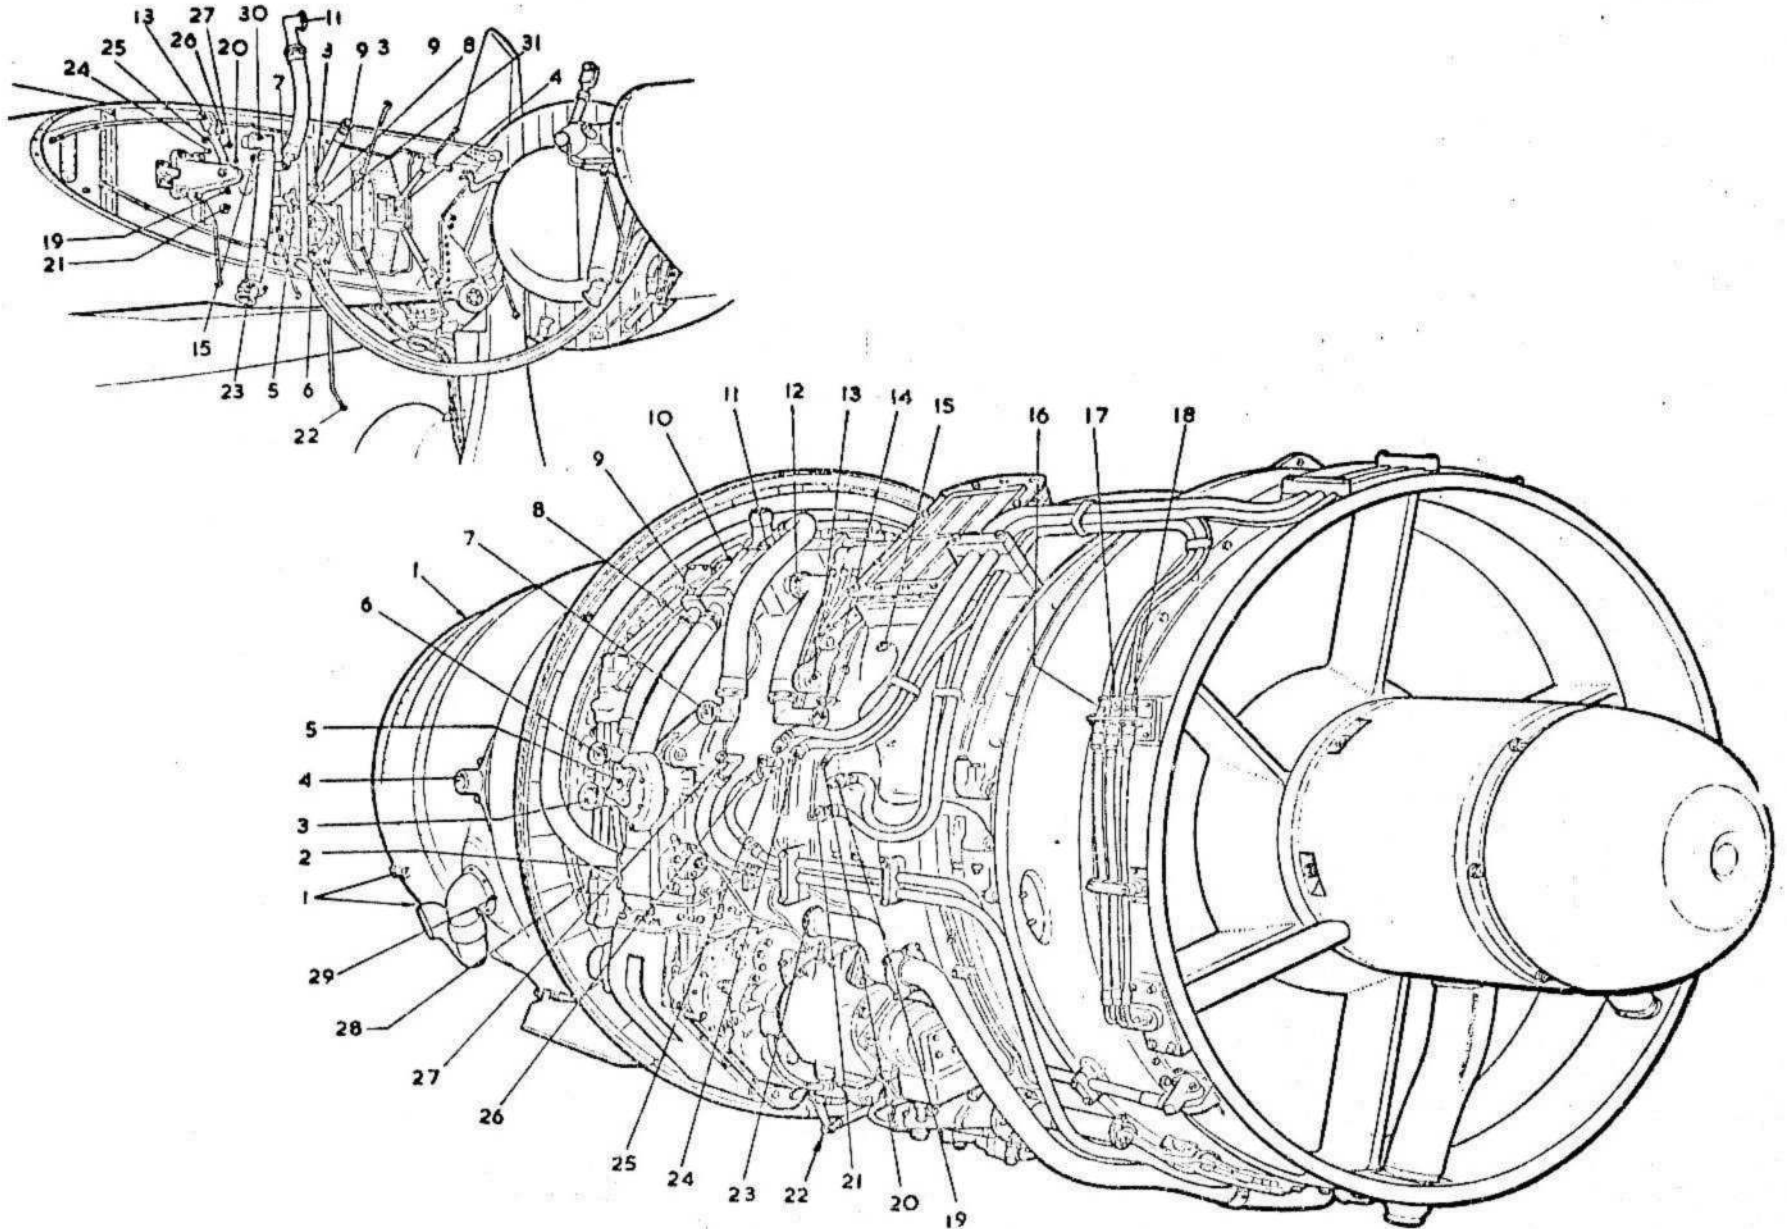

Fig. 7. Engine change unit removal
**E.C.U. (fig. 7 and 8)****WARNING . . .**
32. (1) Ensure that the battery isolation switches are OFF and that no external supply is plugged in.